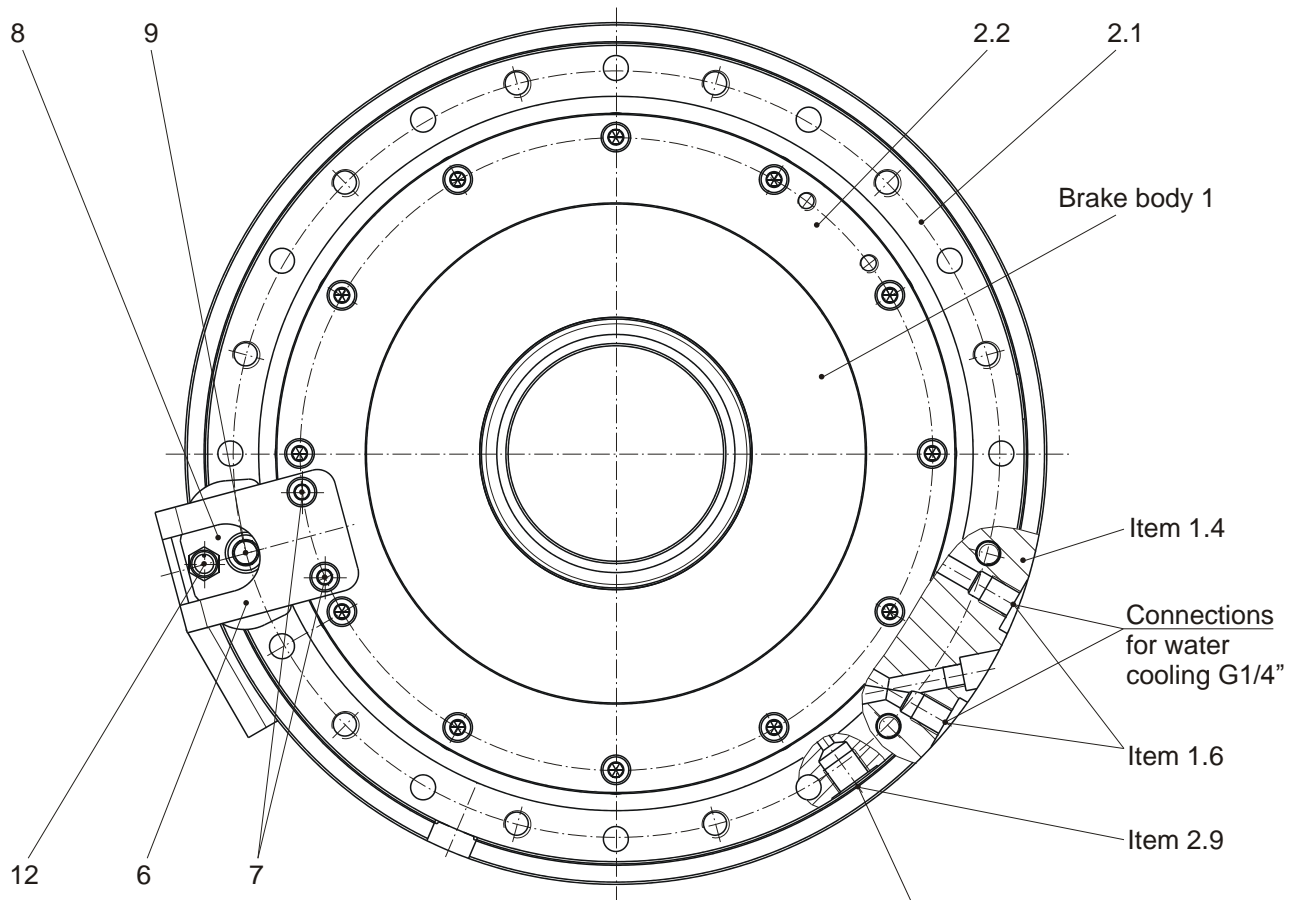
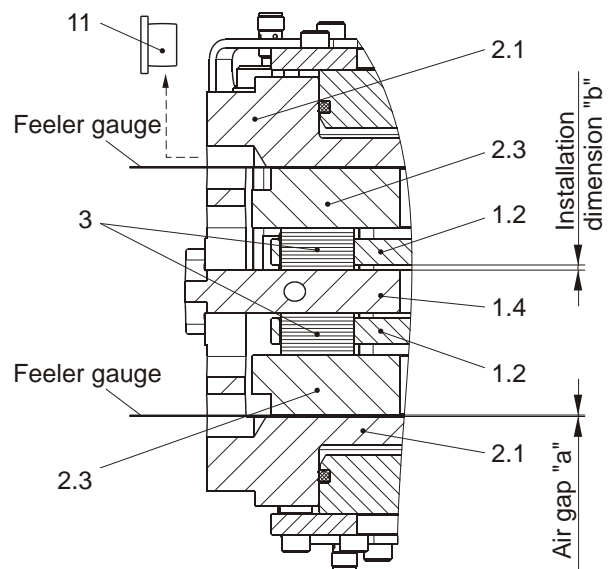

Fig. 3
Fig. 6
Dimension "b" = Distance from the intermediate disk (1.4) to the rotor (1.2), as shown in Fig. 6.
2. Loosen the cap screws (4) and remove them along with the washers (5).
4. Remove the hub (1) with all 24 friction blocks (3).
6. Mount the hub assembly (1), equipped with 12 friction blocks (3) for brake circuit 1, onto the drive shaft, bring it into the correct position (observe installation dimension "b", see Fig. 6), and secure axially (e.g. using a clamping set).
7. Equip the second rotor (1.2) with 12 friction blocks (3).
9. Screw brake body 2 using cap screws (Item 4 / secure screws using Loctite 243) and washers under them (5) output-side with brake body 1. Please observe the **tightening torque of 71 Nm!**
10. Connect the water cooling for the intermediate disk (1.4). Connections see Fig. 3.
## Pneumatic Connection (Figs. 3 and 5)